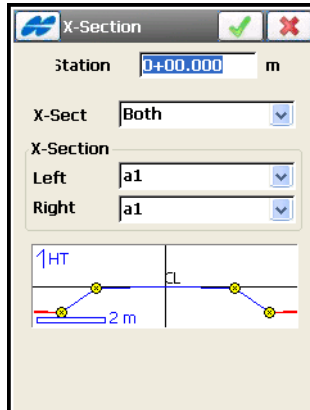

Figure 7-30. Cross Section Parameters
- **Edit** – opens the *X-Section* screen (Figure 7-30 on page 7-31) to edit the selected cross section.
The *X-Section* screen (Figure 7-30) contains parameters of the road cross-section at a given distance and a plot of the cross-section.